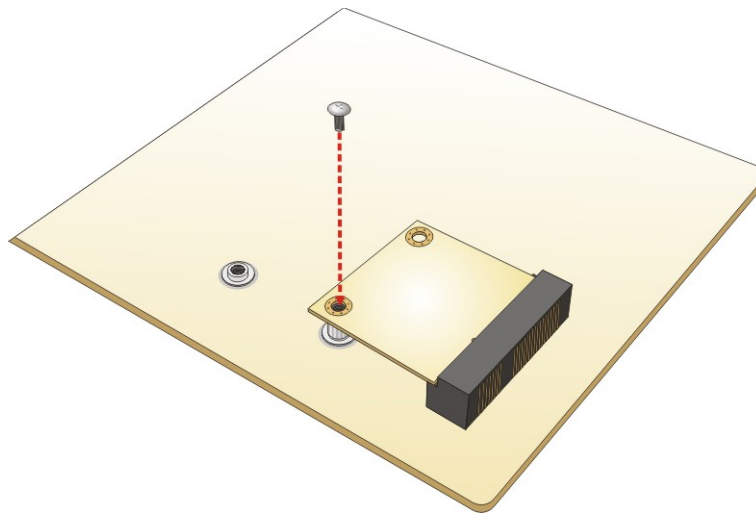

Figure 4-8: Securing the Half-size mSATA Module
Step 5: Secure the half-size mSATA module with the retention screw previously removed (**Figure 4-8**).